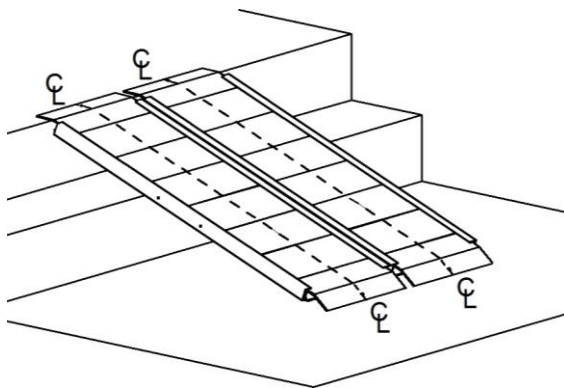

FIG. 1
3. Unfold ramp and position securely on support surfaces (FIG.1).
- ⚠ Always enter and exit ramp along its centerline (⊥) (FIG. 1).